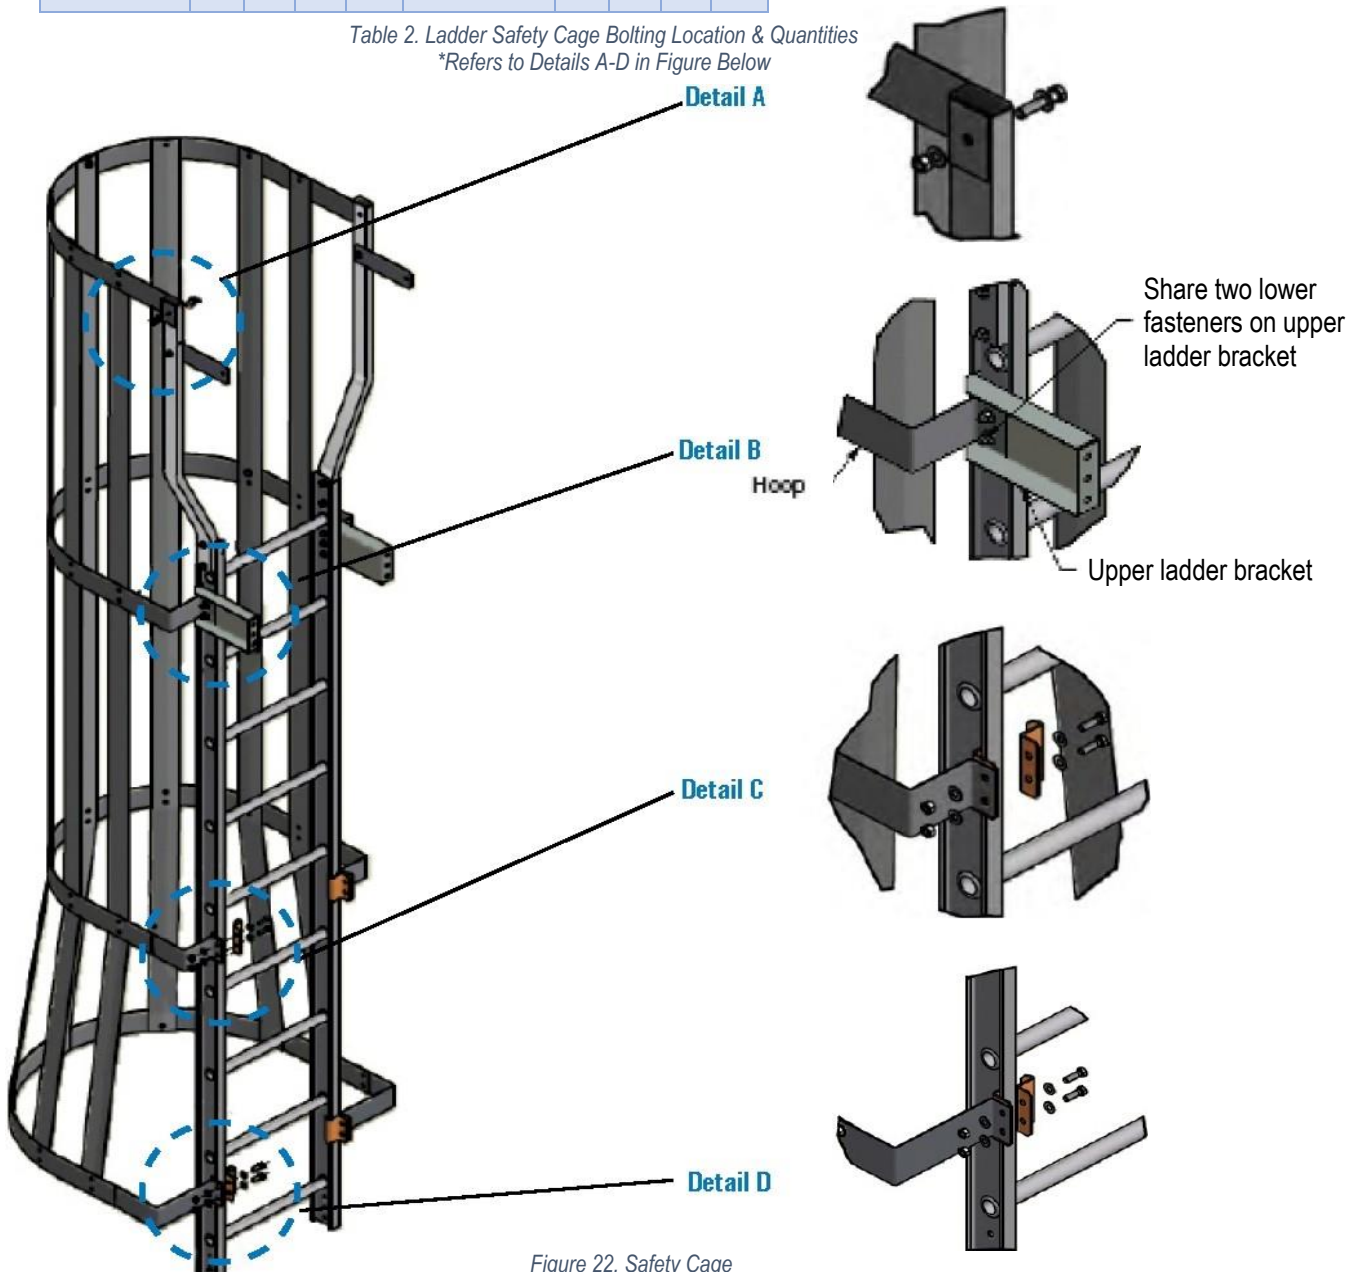

Figure 22. Safety Cage
1. After platform installation is complete secure platform gap cover plates (PCC) to platform base using 5/16" tappers and 1/4" x 2" self-tapping screws provided. Secure coil casing section gap cover plate (FAT) to coil casing section using 1/4" x 2" self-tapping screws provided. See **Figure 22**.